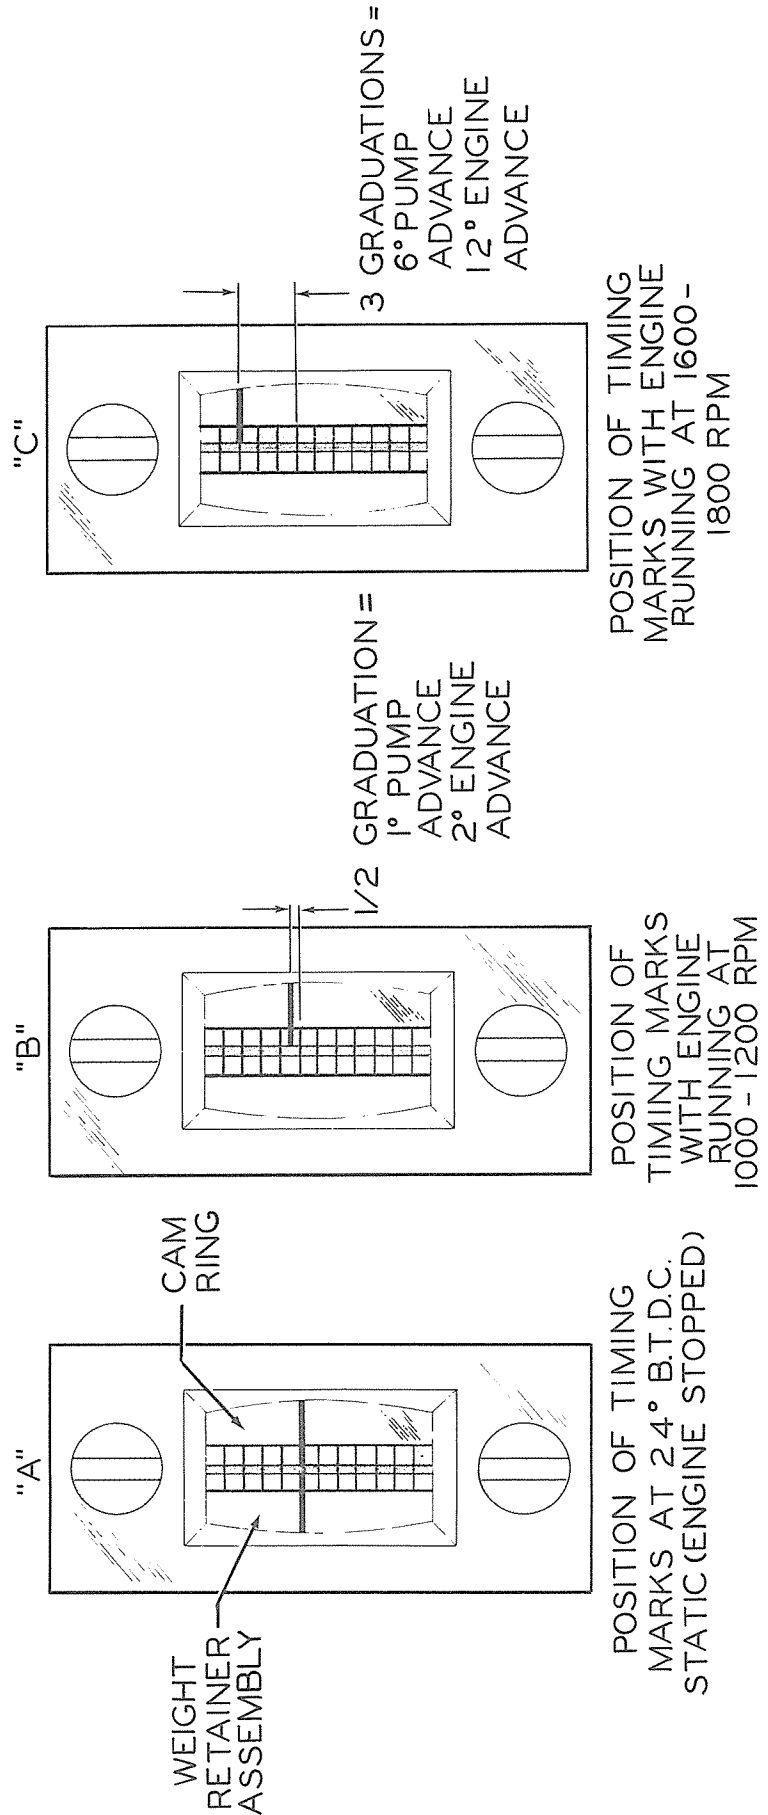

Fig. 9-Checking Timing Mark Advance (T-73857)
4. Run engine at high idle, then reduce speed to 1000 - 1200 rpm and observe timing marks. The timing mark on the governor weight retainer assembly will not be visible because the assembly is rotating at one-half engine speed. The timing mark on the cam ring should have risen one-half (1/2) a graduation on the timing window, Fig. 9 ("B"), indicating a timing advance of 1° pump or 2° engine.
5. Run engine at high idle, then reduce speed to 1600 - 1800 rpm and observe timing mark on cam ring. The timing mark should have risen three (3) graduations on the timing window, Fig. 9 ("C"), indicating a timing advance of 6° pump or 12° engine.